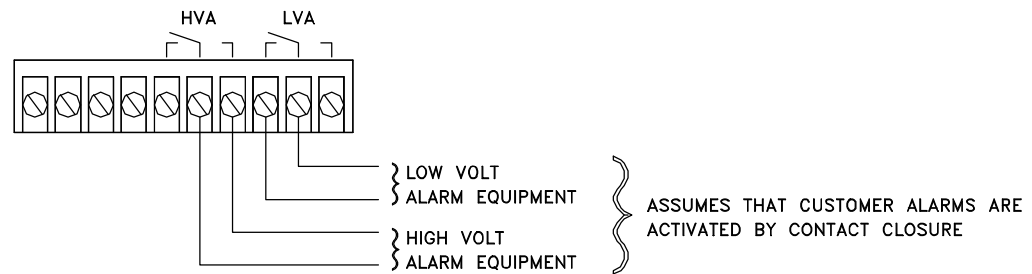

FIGURE 5
- \* FOR ALARM BOARD OPTION, SEE FIGURE 5.